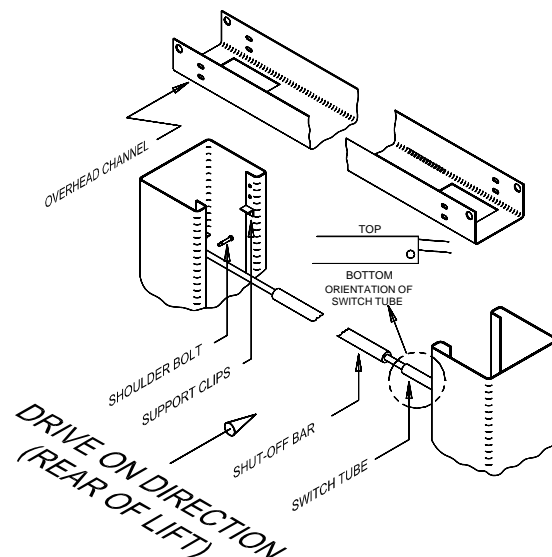

Fig 5
7. Attach the overhead support clips to the columns. Set the overhead channel in the columns onto the support clips. Fasten channel using the 3/8" bolts, nuts, and washers. **See Fig 5.**
8. Attach the Switch Tube to the column using the 3/8" dia. X 1 1/2" lg. shoulder bolt and 5/16 -18 keps nut. The switch wire should be above the pivot hole as shown in **Fig 5**. Route the switch cord wire with the power unit hydraulic hose using the cable ties provided. **IMPORTANT: Switch Tube MUST be mounted to REAR of Lift. The wire must be supported 3 to 6 inches from the switch tube for proper operation of the shut-off switch.** Make certain there is no interference with synchronizing cables, cable pulleys, or hydraulic cylinder at full rise. Raise and lower shut-off bar to insure switch tube assembly rotates freely.